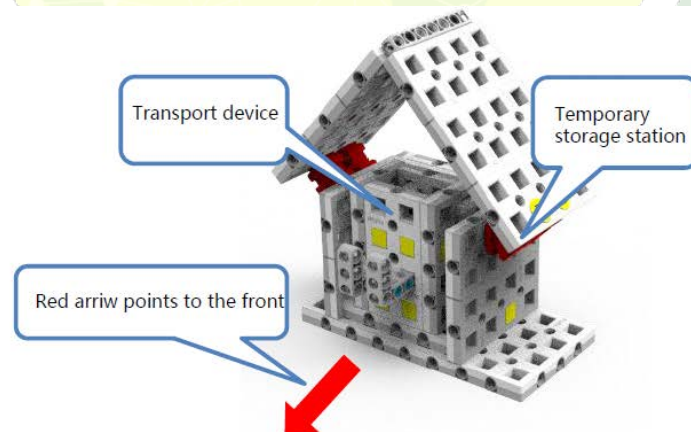

Figure 3-4-1 Waste Transportation Task Model Initial Status
3.4.1 Waste Transportation task model may be placed in positions 1 to 10 with fixed direction; red arrow points to the front, as shown in Figure 3-4-1.